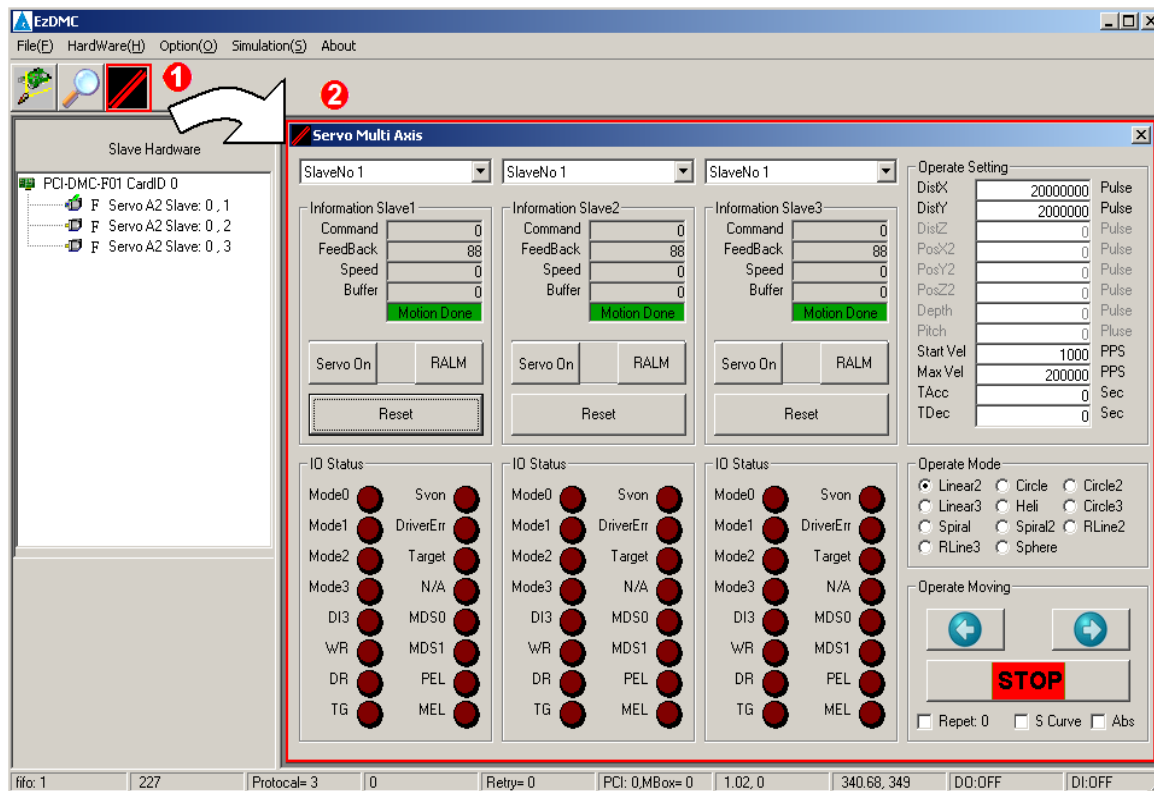

Figure 3.9
When you have added the connected extension modules to the serial communications link, if you wish to perform multi-axis motion control, click on the third menu motion (marked with square bracket①) in the EzDMC "Toolbar" to execute Multi-Axis Control. The multi-axis control window will appear in the right display block (②) as shown in Figure 3.9.